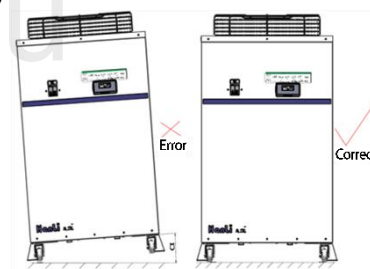

Figure 3 Requirements for Equipment Installation Form
- It must be installed horizontally and cannot be tilted , as shown in Figure 3. Equipment without casters needs to be fixed with anchor bolts , and equipment with casters must lock the universal wheels.